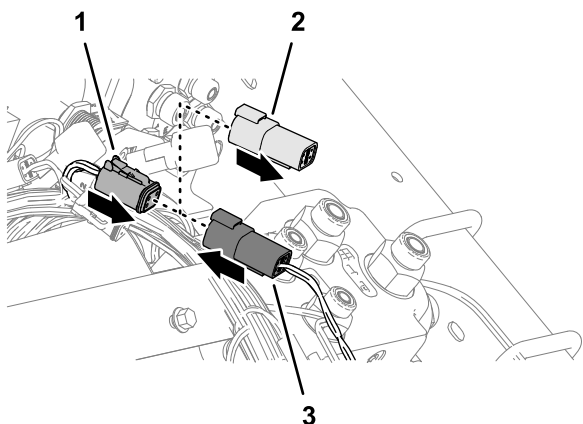

Figure 92
4. Remove the cap from the 4-socket connector GeoLink wire harness labeled CAN 1 ISOBUS (Figure 92).
5. Plug the 4-pin connector of the kit wire harness labeled ISOBUS CONNECTION into the 4-socket connector labeled CAN 1 ISOBUS (Figure 92).